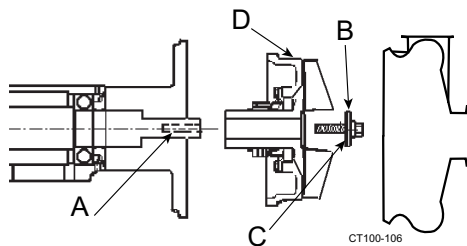

Figure 57 - Installing Impeller Assembly
11. Install the impeller key (Figure 57, item A).
12. Install the O-ring on the impeller retainer bolt (Figure 57, item C).
13. Install the impeller retainer bolt and tighten it (Figure 57, item B).